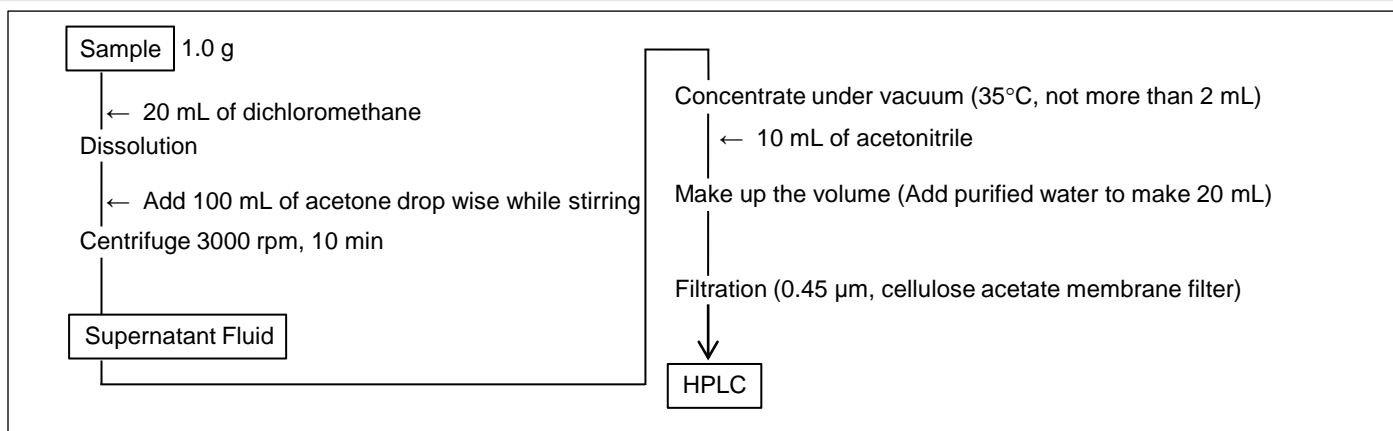

Figure 3 Preparation Method for Material Test
- ✓ Unused PC containers were used as the samples. The samples were prepared in accordance with the procedure described under the material test of the Food Sanitation Act (Figure 3) so as to extract the sample solutions.